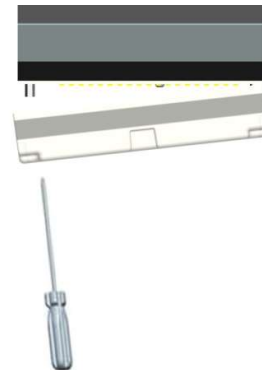

FIG.7
4. Remove the PC protective cover on the LED head (see FIG. 7). The PC cover is only meant to protect the LEDs during shipment and installation. It has to be removed after installation.
- 5. Remove the PC protective cover on the LED head (Refer to FIG. 7). The PC cover is only meant to protect the LEDs during shipment and installation. It has to be removed after installation.